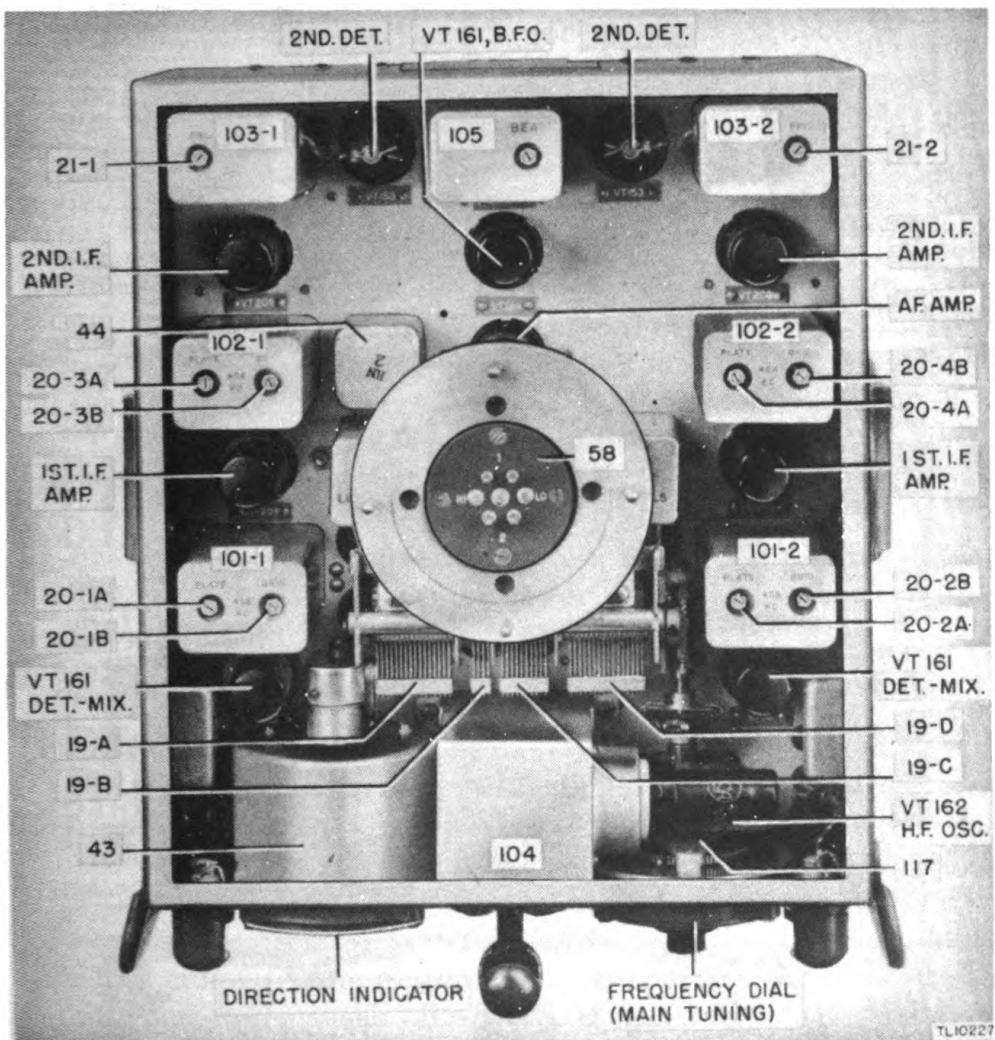

Figure 27. Radio Receiver BC-973-A, top view.
d. To remove commutator brushes.—(1) Remove the receiver from the mounting plate.
(2) Remove the bottom plate by unscrewing the four corner screws. To inspect, clean, or replace the six silver commutator brushes, unscrew the threaded brush holders from the square aluminum can mounted on the center of the chassis.
a. Alignment of Radio Receiver BC-973-A (fig. 27).
(1) Remove the loop, antenna handwheel, and the top cover as outlined in paragraph 24a.
(2) Connect commutator prong terminals marked HI together.
(3) Connect terminals marked LO together.
(4) Set signal generator to 458 kc and check with frequency calibrator or frequency meter.
(5) Connect hot side of signal generator to HI terminals of commutator.
(6) Connect low side of signal generator to the slide fastener latch stud on top of the commutator assembly.
(7) Set the SENSITIVITY control to approximately 8½ on its scale.
(8) Set switches on the front panel to following positions: